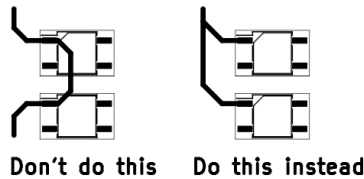

Figure 1: Power trace routing
- If it is reasonable, route traces so that if a solder joint on one component fails (eg. if a pad rips off), it does not affect downstream components (see Figure 1 below). This applies especially to power connections for independent parts of the circuit. Don't daisy chain power lines through the leads or pads of components.